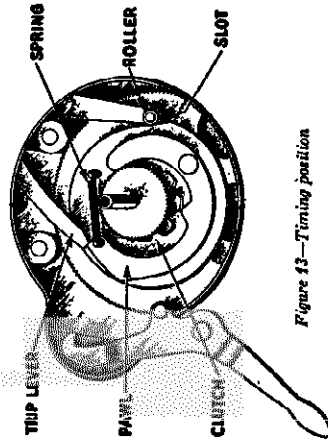

Figure 13—Timing position
When the mechanism is out of adjustment after replacing parts, or because of continued use, it may be necessary to reset the mechanism. When the slide Figure 17 is in its extreme forwarding position, the tone arm wheel is in mesh with the gears so that the trip lever is touching the end of the pawl as shown in Figure 13, when the cable lever roller is engaged in the slot on the side of the pawl carrier as shown.
- Lower the pawl carrier into mesh with the gears so that the trip lever is touching the end of the pawl as shown in Figure 13, when the cable lever roller is engaged in the slot on the side of the pawl carrier as shown.
(14) REMOVING MOTOR BOARD